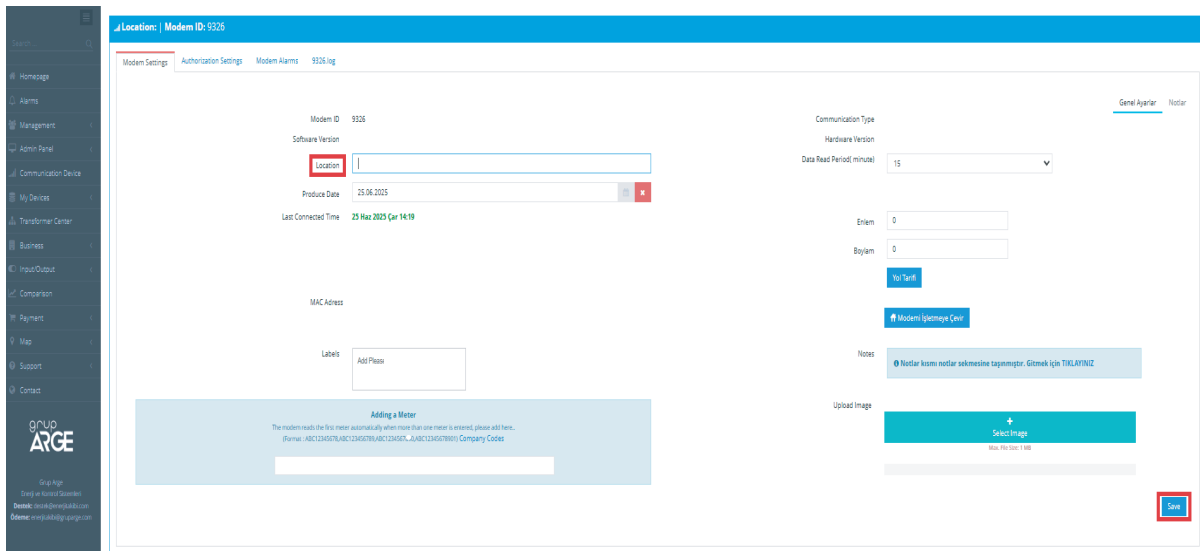

Figure6.9
11. In the "Modem Settings" section, to quickly identify the company where the device is installed, enter the location information and click the "Save" button. (Figure 6.9)